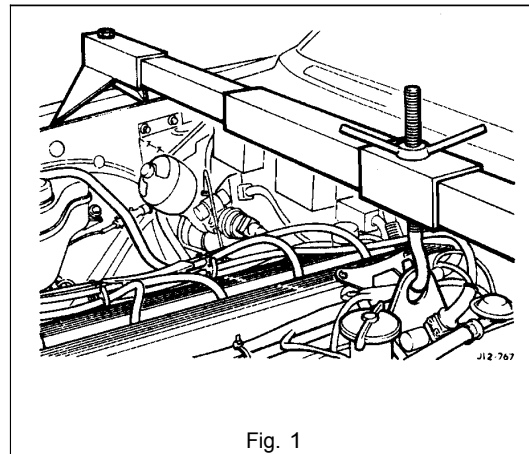

Fig. 1
- Fit Service Tool MS 53B (Fig. 1) across the wing channels and align to rear lifting bracket.